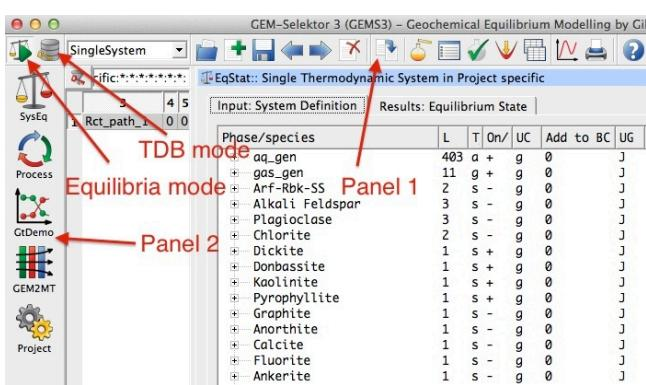

Figure 2.1: GEMS user interface showing the ‘Equilibria Calculation’ and ‘Thermodynamic Database’ modes.
- Open GEMS and choose the project in the **Equilibria Calculation Mode**. The user interface is shown in Figure 2.1. Panel 1 permits to create new records and run the program for calculations. Panel 2 gives you different calculation options.
- Finally, clone your existing Rct_path_1 chemical system by selecting it and choosing Clone a new record from this one in Panel 1 (Fig. 2.1). Change the name to Rct_path_2 and the temperature to 300 °C in the pop up window, and recalculate the equilibrium of this system.
- Select the Process option in Panel 2 (Fig. 2.1).